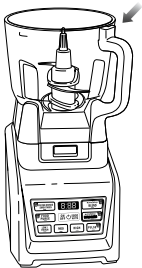
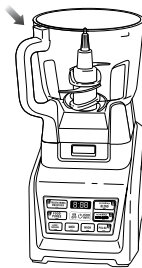

Fig. 5a
Fig. 5b
- 7 The bowl can be placed on the motor base two ways; the handle can be on the front right corner or the front left corner. (Fig. 5a, Fig. 5b)